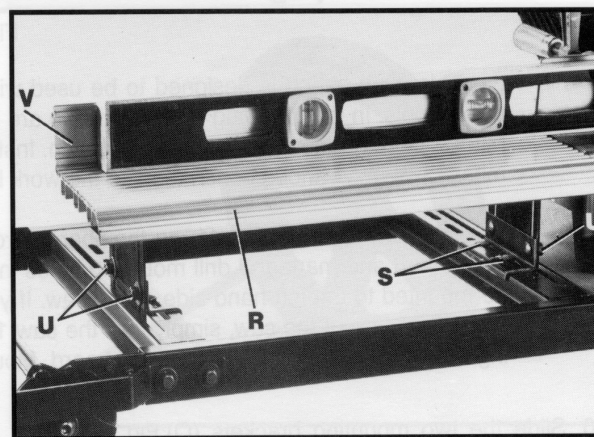

Fig. 16
13. Adjust the height of the table extension (R) Fig. 16, to be in line with the saw table by loosening the four nuts, three of which are shown at (U), and raise or lower the table extension (R). When the surface of the table extension is in line with the saw table, tighten the four nuts (U).